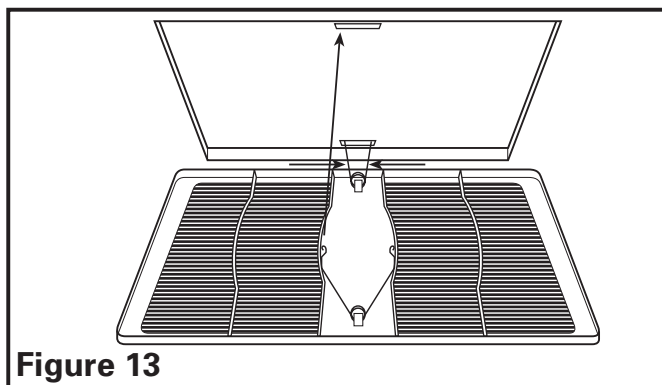

Figure 13
4. Install the grill by squeezing the two ends of the springs together and installing them up into the slots on the fan's housing. Push the grill up into position (**Figure 13**).